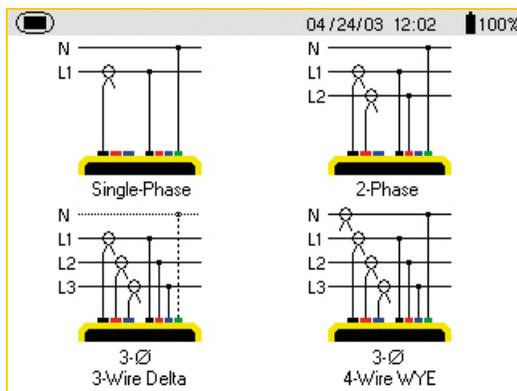
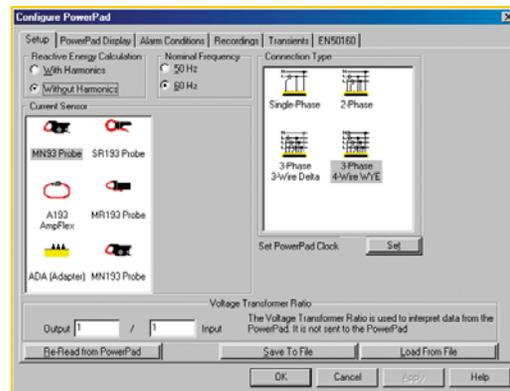

Figure 2. PowerPad™ setup screen
Figure 3. DataView® setup screen
- b) The user can depress the SETUP button , the top button on the left side, to configure the instrument (Figure 1 bullet 10). There are 11 options in the setup. One option to note is the Electrical Hookup. Use the down arrow keys  (Figure 1, bullet 8) to scroll down to the desired function and press the ENTER key  (Figure 1, bullet 9). You should see a screen similar to Figure 2. Figure 3 shows the example of the screen seen while configuring the instrument using the DataView® software.